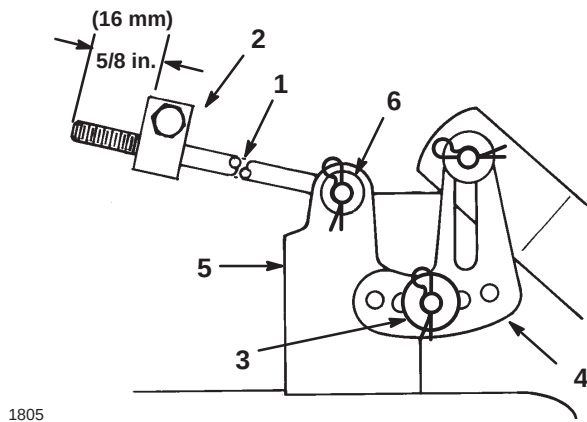

Figure 8
8. Ensure that both rods extend 5/8 in. (16 mm) beyond the adjustment block (Fig. 8).
9. Slide the end of the long rod through the hole in the mower mount (Fig. 8).
10. Install the thin washer and hairpin cotter to secure the rod in place (Fig. 8).
11. Mount the slotted mower leveling bracket onto the pin on the mower mount (Fig. 8).
12. Install the thick washer and hairpin cotter to secure the mower (Fig. 8).